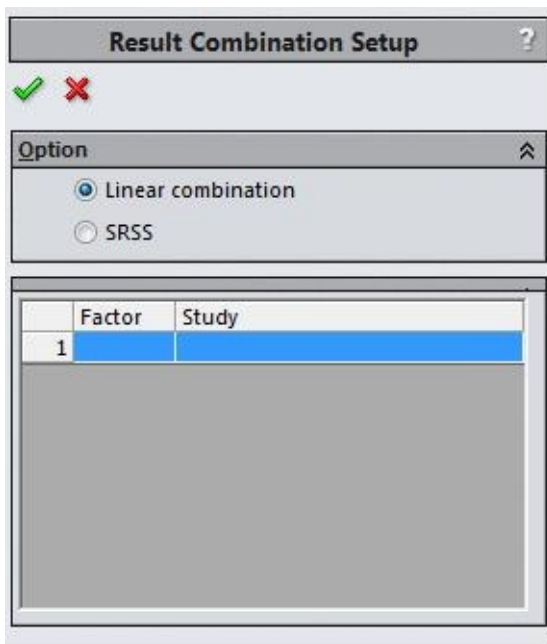

Figure-6. Result Combination Setup PropertyManager
- Click on the **Define/edit** button. The **Result Combination Setup PropertyManager** will be displayed; refer to Figure-6.